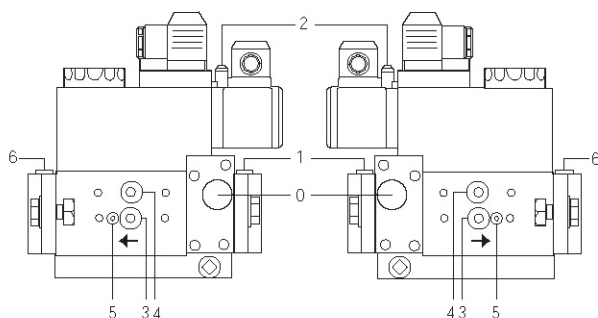
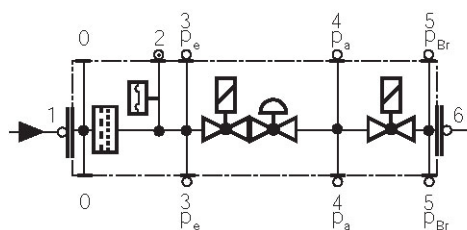

Fig. 40
Fig. 41
- Clean and examining the gas filter cartdrige, if necessary replace it (Fig. 40 on).
- Change the filter if the pressure difference between pressure connection 1 and 3 (Fig. 40-Fig. 41) is $\Delta p > 10$ mbar.
- Change the filter if the pressure difference between pressure connection 1 and 3 (Fig. 40-Fig. 41) is twice as high compared to the last check.